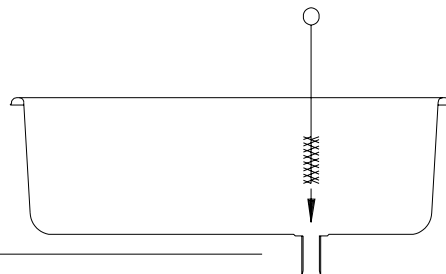

Figure 8-1
3. Pour sanitizing solution into the hopper pan. Using a clean brush, wash down the hopper walls and the mix feed tube from the hopper to the cylinder, as shown in figure 8-1. Wipe the hopper cover with the sanitizing solution.